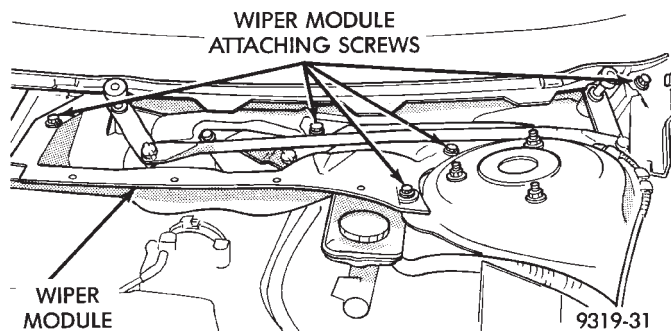

Fig. 20 Windshield Wiper Module Attaching Screws
(11) Install vacuum supply hose for power brake booster back on intake manifold vacuum port. Install hose clamp on vacuum hose.
(12) Install windshield wiper module assembly into cowl of vehicle. Install and securely tighten the 5 screws attaching windshield wiper module to cowl (Fig. 20).